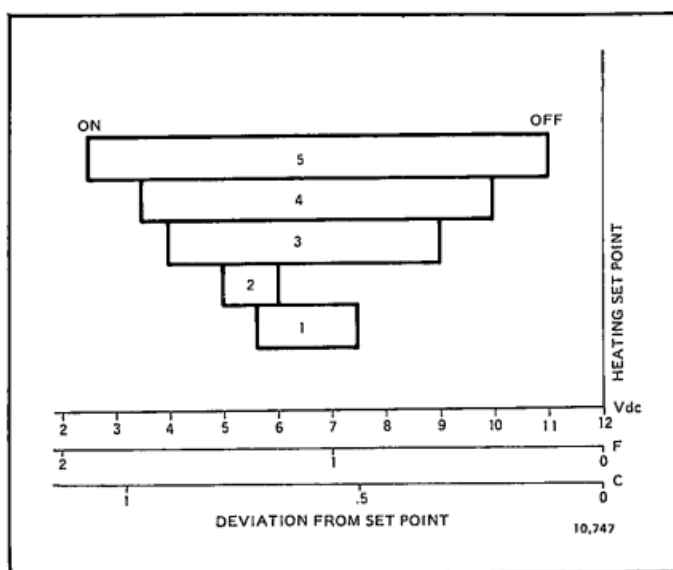

FIG. 8W7083A ELECTRIC HEAT SEQUENCER STAGE ON-OFF AND OVERLAP.
- When the signal input to the sequencer is interrupted, stages are turned off in the sequence H2, H1, H3, H4, and H5. A period of approximately 15 seconds is required to sequence all stages off. Input to the sequencer is the limited LO signal output from the W7081A Limit Controller. This signal is determined by zone demand, modified by the temperature in the hot deck, and based on the set point selected in the W7081A Limit Controller. Voltages at which heat relays are switched on and off are shown in Table 7. The relationship of switching of the 5 heat stages is shown in Fig. 8.